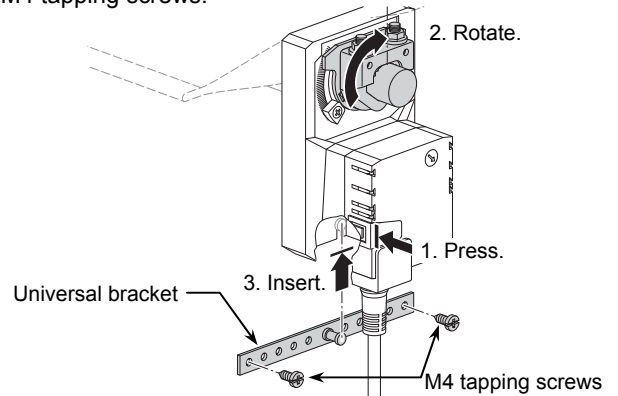

Figure 6. Attaching the universal bracket
3) With the gear release button pressed, manually rotate the shaft clamp until it is in the position shown in Fig. 6. Then, insert the universal bracket into the slit of the actuator and fix the bracket onto the damper with the two M4 tapping screws.